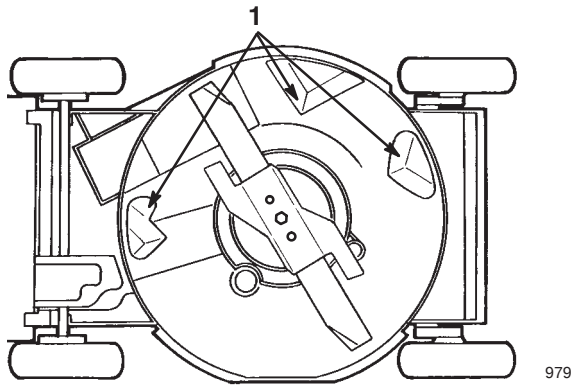

Figure 16
Keep the underside of the lawn mower housing clean. Be especially careful to keep the kickers free of debris (Fig. 16).
5. Tip the lawn mower onto its **left** side (Fig. 16).